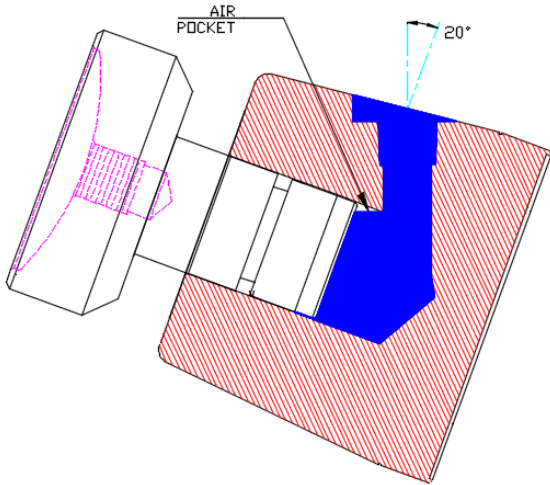

Figure 1
- a. If you hold the body as shown in picture 1 with the gauge straight up at 90 degrees an air pocket will form inside cavity as shown in Figure 1 below.